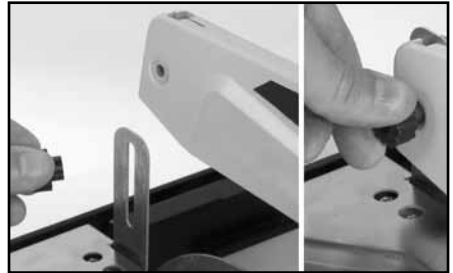

FIGURE 7
5. Slip the back end of the blade guard down over the blade guard support (see FIGURE 7).
6. Replace the knob into the blade guard, while being careful to hold bolt on the right side in place, then tighten (see FIGURE 7).